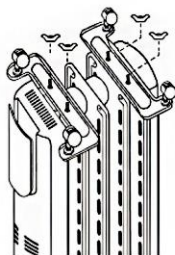

Fig. 4
2. On the HOCH5 & HOCH5T models, note the correct position of the anti-topple castors. The wings on the brackets must be pointing outwards, away from the radiator. Refer to fig. 4.